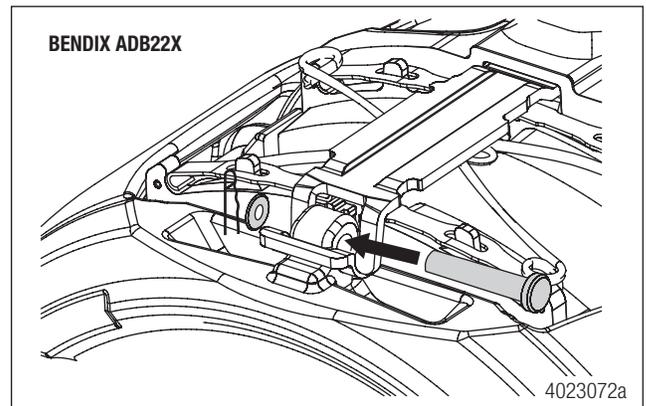
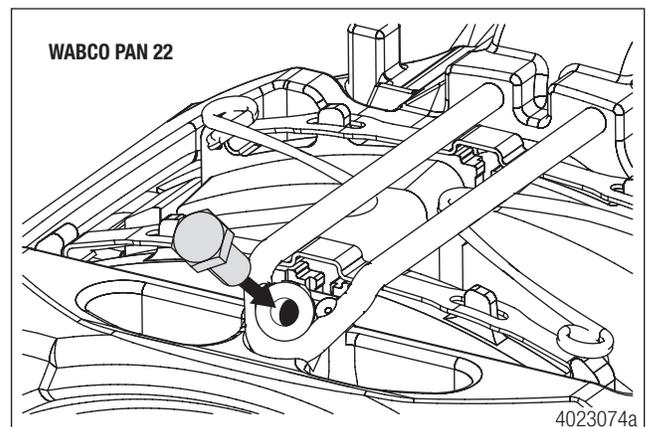

Figure 3
Figure 4
10. Install the pad strap with the center bends of the springs captured underneath. Fasten per manufacturer's instructions. Figure 3 and Figure 4.